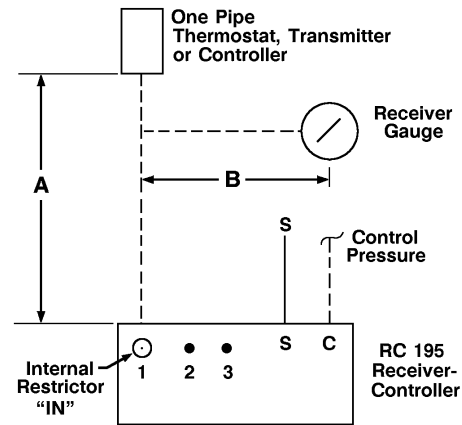

Figure 1.
- For 1-pipe transmitters, 40 scim (11 ml/s), refer to Figures 1 and 2.